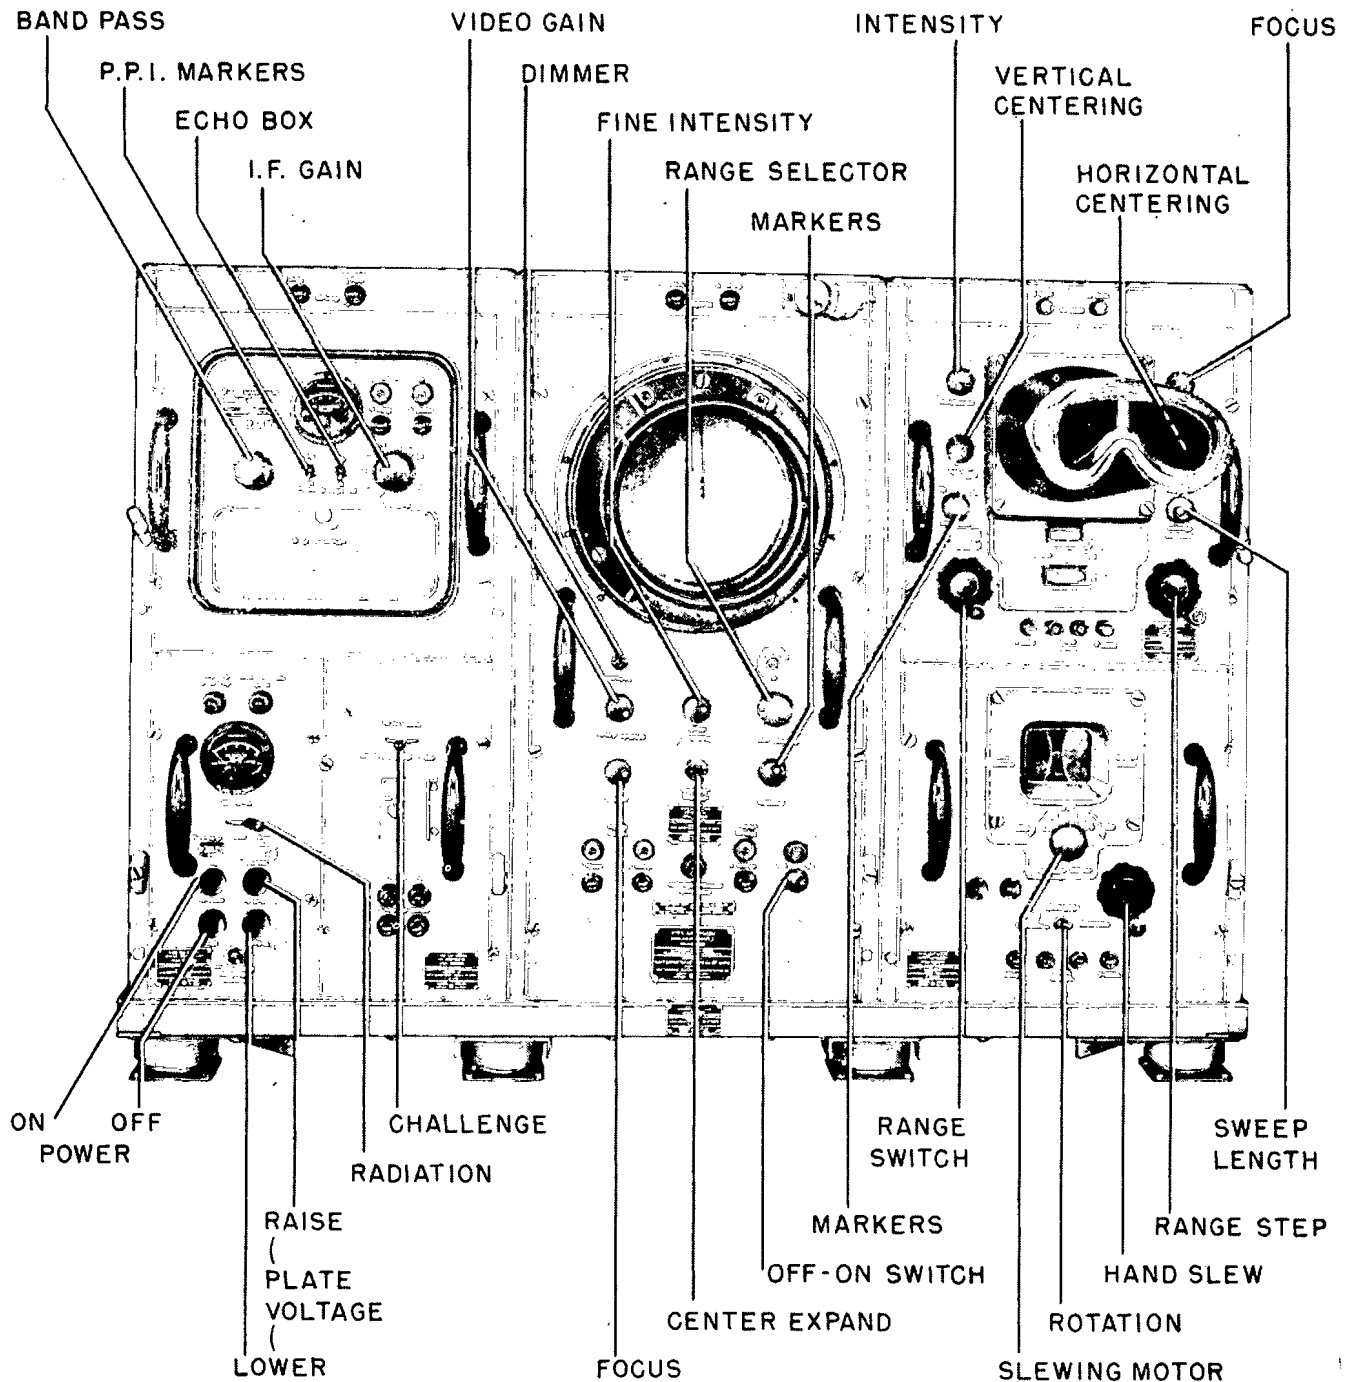

Figure 3-42. Operating Controls on Indicator Console
(31) Place the ROTATION SWITCH S-804 on the panel of the Bearing Indicator in its NORMAL position. This switch is shown in Fig. 3-42.
(32) Place the SLEWING MOTOR switch S-801 in its OFF position. This switch is located on the panel of the Bearing Indicator and is shown in Fig. 3-42.
(41) Place the ROTATION switch S-804 on the panel of the Bearing Indicator in its NORMAL position. This switch is shown in Fig. 3-42.
(42) With all switches in their OFF position, proceed in adjusting the modified system in the same way as was described for adjusting the unmodified system, in steps (32) through (39) inclusive.
(43) Place the SLEWING MOTOR switch in one of its four rotational positions, and count the revolutions per minute of the Bearing Indicator dials. If the speed is too low, which sometimes occurs as a result of aging of the rectifier units, move the taps on transformer T-1104. The lead normally on tap 4 should be moved to tap 5, and the lead normally on tap 7 should be moved to tap 8.
(1) Place the INDICATOR CONSOLE switch S-405 on the panel of the General Control Unit in its ON position. This switch is shown in Fig. 3-42.
(2) Place the ON-OFF switch S-501 on the PPI Indicator in its ON position, and the CENTER EXPAND switch S-502 in its OFF position. See Fig. 3-42.
(3) Turn the RANGE SELECTOR switch S-500 on the PPI Indicator to the point where 200 appears in the window above the switch.
(4) Adjust the FINE INTENSITY R-554 control on the PPI Indicator until the PPI trace is barely visible. Then adjust the FOCUS control R-576 and FINE INTENSITY control until the line is sharp and barely visible.
(5) Turn the VIDEO GAIN control R-559 on the PPI Indicator until echoes appear on the PPI trace. It may be necessary to rotate the Antenna to locate a target.
(6) Rotate the HAND SLEW wheel on the Bearing Indicator and note whether the trace is starting from the center of the face of the PPI tube.